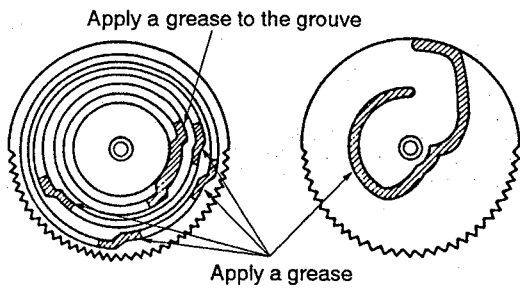

Fig. 10
- ① Open the tray.
- ② Remove one screw (A), two screws (B), three screws (C) and one screw (D).
- ③ Separate the output terminal of the AUDIO Assembly from the rear panel. (Arrow ①)
- ④ Slide the AUDIO Assembly by lifting it up. (Arrow ②)
- ⑤ Raise the AUDIO Assembly so that it does not touch the tray guide assembly. (Arrow ③)
- ① Grease the cam gear. (Fig.10)